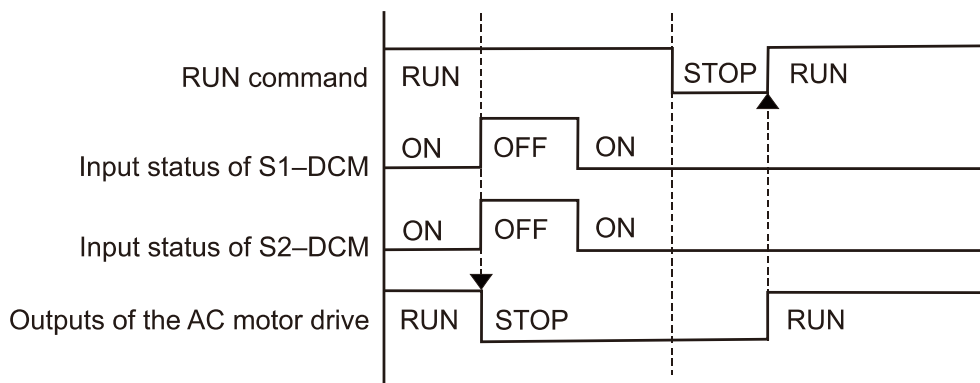

Figure 7
As shown in Figure 7, when both of S1-DCM and S2-DCM are OFF during operation (STO function is required), the drive stops outputting. When the S1 / S2 status is restored (ON), the STO alarm clears automatically. The drive outputs when the RUN command is executed again.